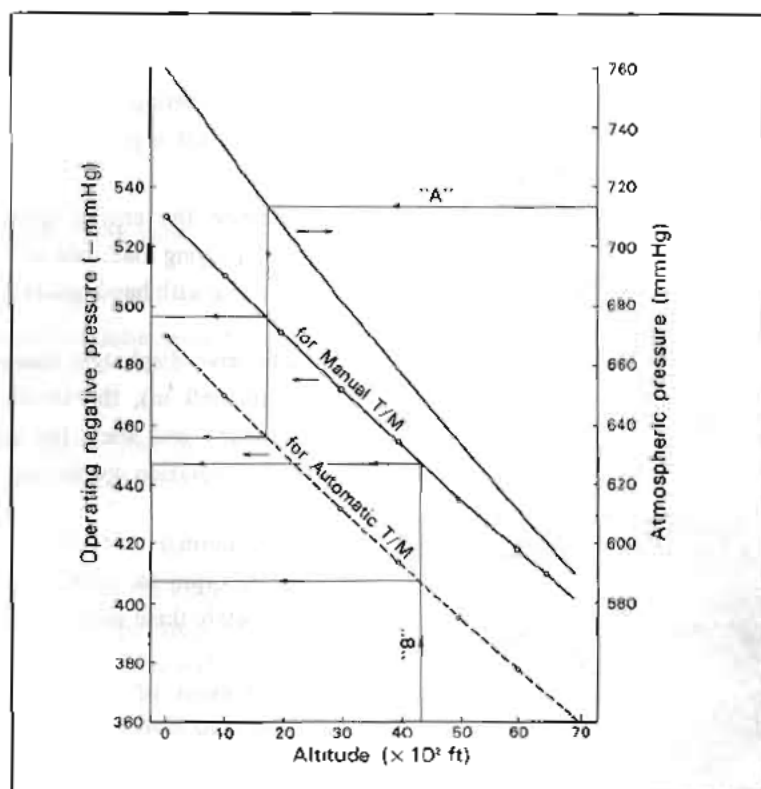

Fig. EC-22 Operating negative pressure of control valve
Control valve operating negative pressure changes in response to altitude as described previously. Hence, operating negative pressure to be adjusted should change in response to the altitude (the atmospheric pressure) of the place where the vehicle is driven. Figure EC-22 indicates relationship between operating pressure to be adjusted and altitude (atmospheric pressure).
How to read the Figure EC-22:
Loosen the lock screw (2) and adjust the vacuum adjusting screw (1) correctly so that the operating negative pressure meets the value obtained from the Figure EC-22.